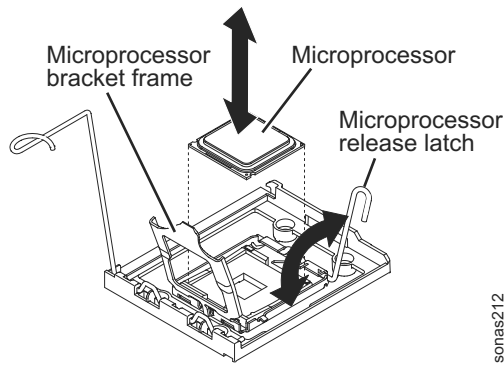

Figure 40. Microprocessor release latch
7. Release the microprocessor retention latch by pressing down on the end, moving it to the side, and releasing it to the open (up) position. See Figure 40 on page 142